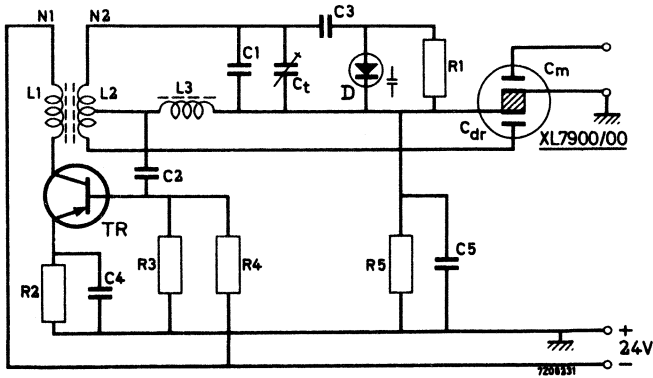

Fig.2
1) For instance in an apparatus realised with the circuit shown in Fig.2, it turned out that all capacitors have a conversion efficiency between 10 and 40% at a voltage over L1 of 1 VRMS.